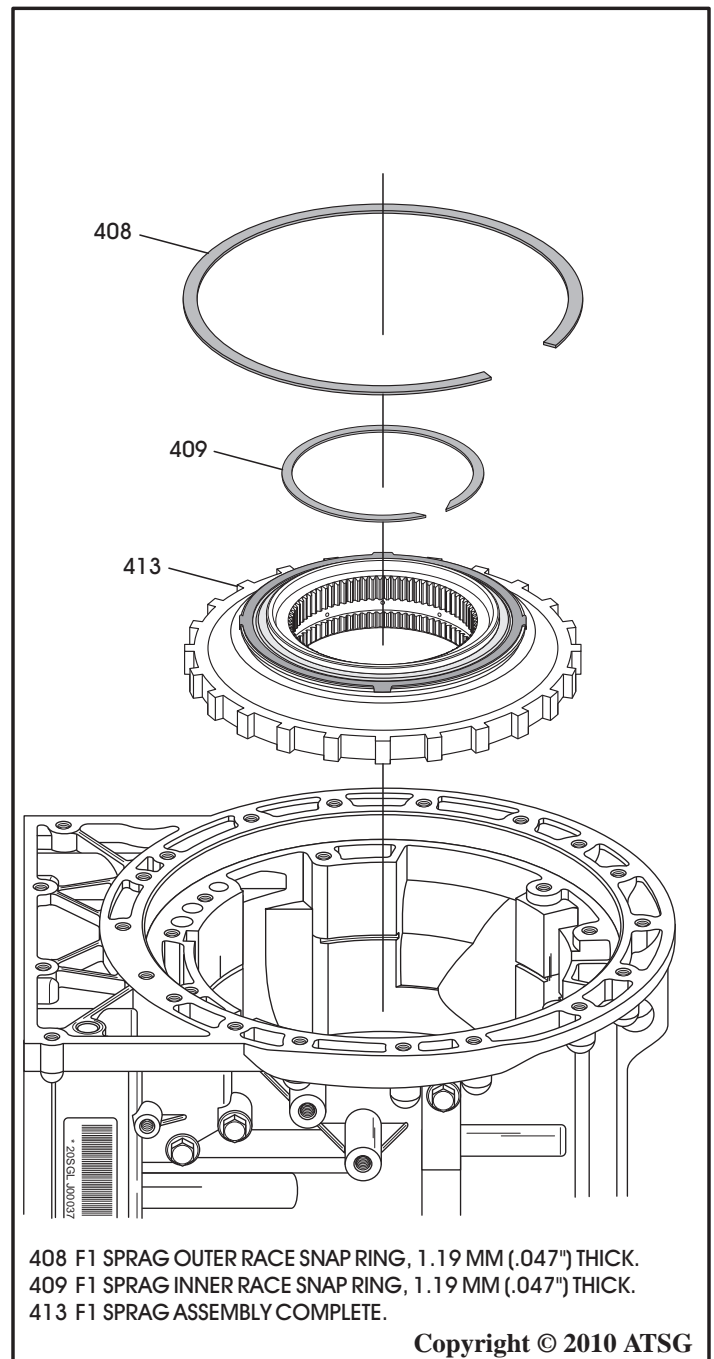

Figure 64
52. Remove the F1 sprag outer race snap ring from the transmission case, as shown in Figure 64.
53. Remove the F1 sprag inner race snap ring from the rear planetary carrier splines, as shown in Figure 64, using snap ring pliers.
54. Remove the F1 sprag assembly from the case, as shown in Figure 64.